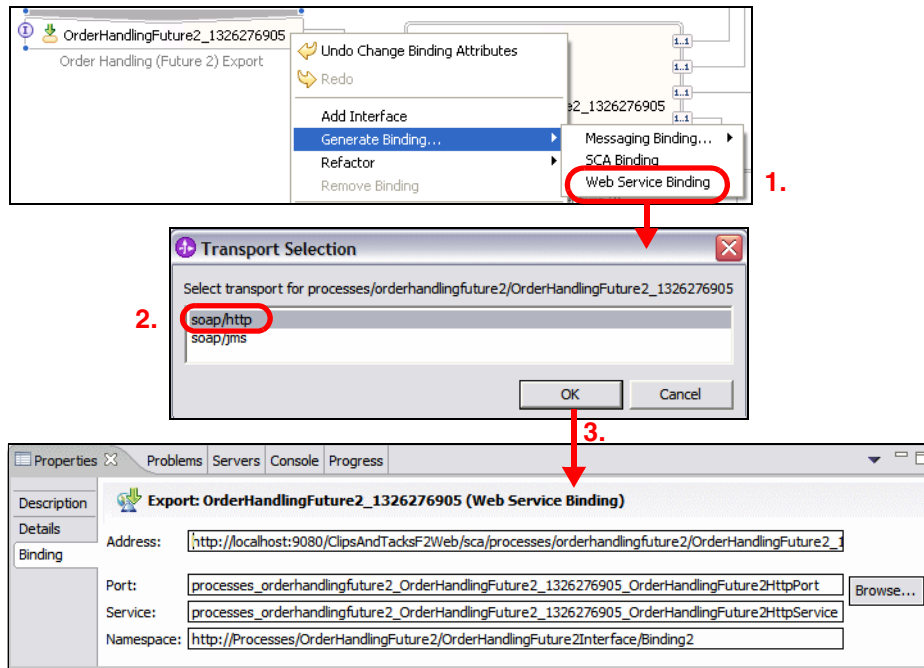

Figure 16-26 OrderHandlingFuture2: Generate Web service binding for export
- ▶ Select *soap/http* as the transport (Figure 16-26).